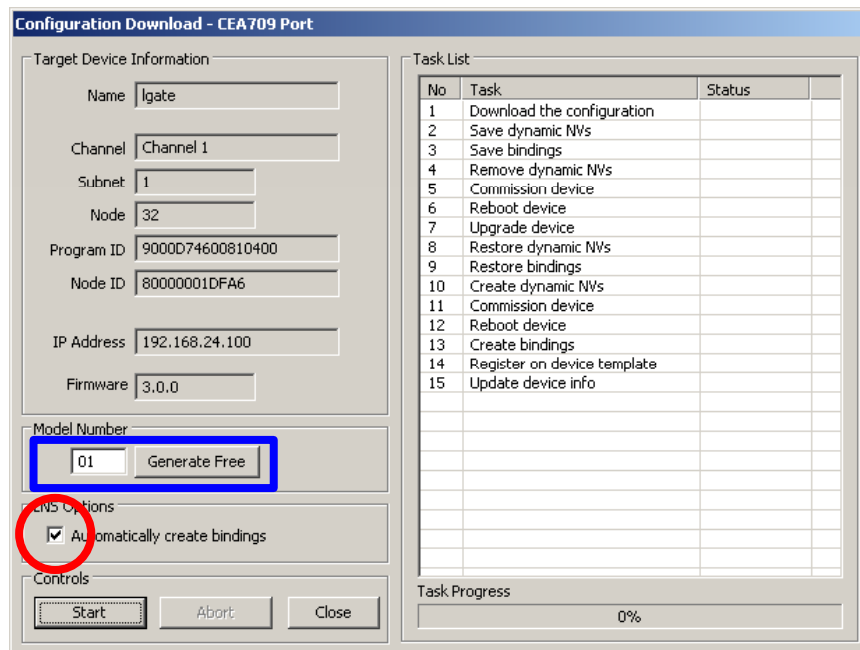

Figure 97: Configuration Download Dialog
in the tool bar of the main connections window. This will open the configuration download dialog as shown in Figure 97.
- If no bindings shall be generated, deselect the **Automatically create bindings** checkbox indicated by the red circle in Figure 97.
3. If the static NV interface has been changed, a new model number for the L-Gate needs to be selected. This is necessary, as the static network interface of the L-Gate changes on the CEA-709 network. The L-Gateway configuration software automatically selects a usable value, which can be overridden in the field **Model Number** marked by the blue rectangle in Figure 97.